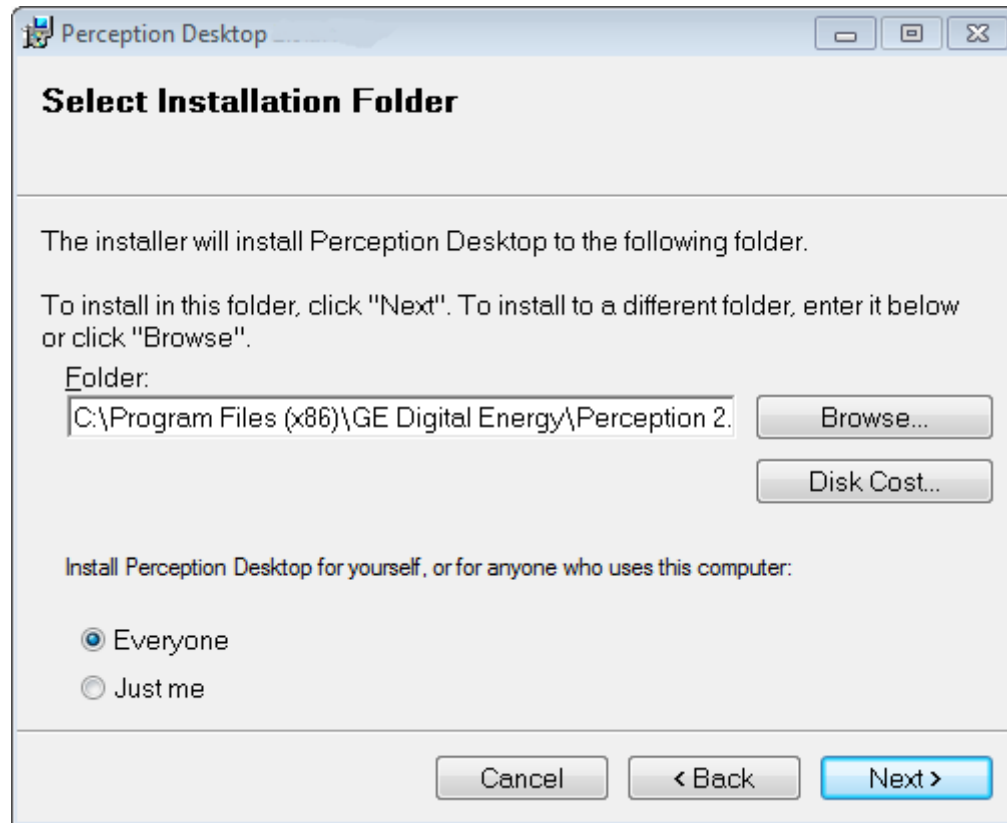

Figure 2-3: Select Installation Folder
- 2.2.3 Browse to select the installation folder or accept the default folder and click **Next** to continue as shown in Figure 2-3.